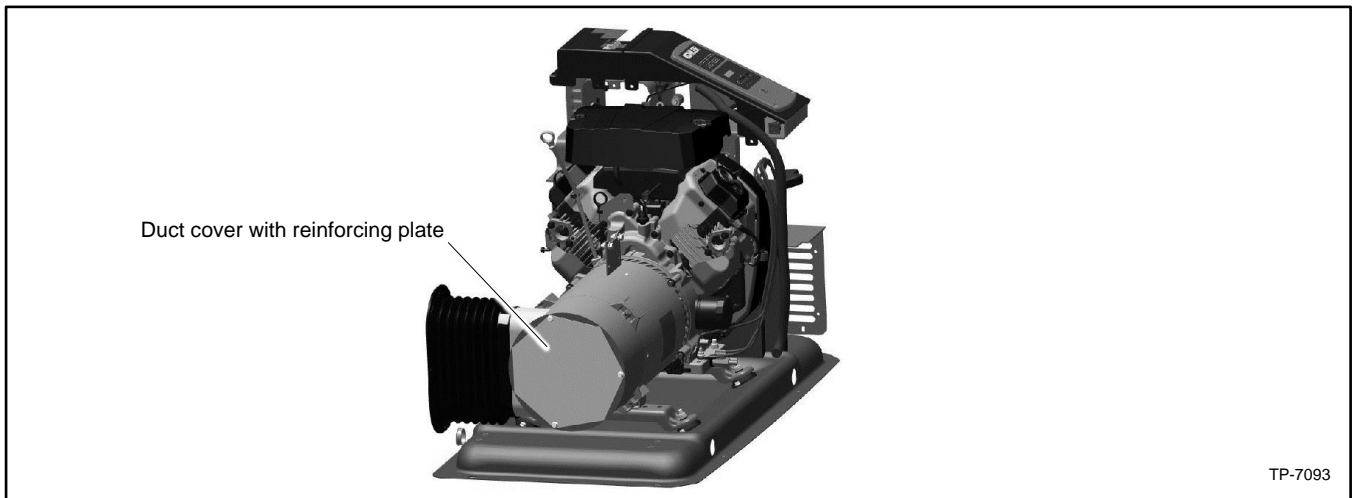

Figure 121 Alternator Duct Cover
25. To gain access to the brush assembly, remove the alternator duct cover with reinforcing plate. See Figure 121 and Figure 122.